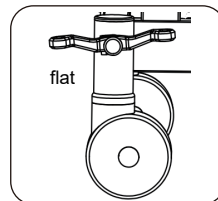

Figure 3.2 Released
- Step on the green side, the casters will be unlocked.(Figure 3.2)